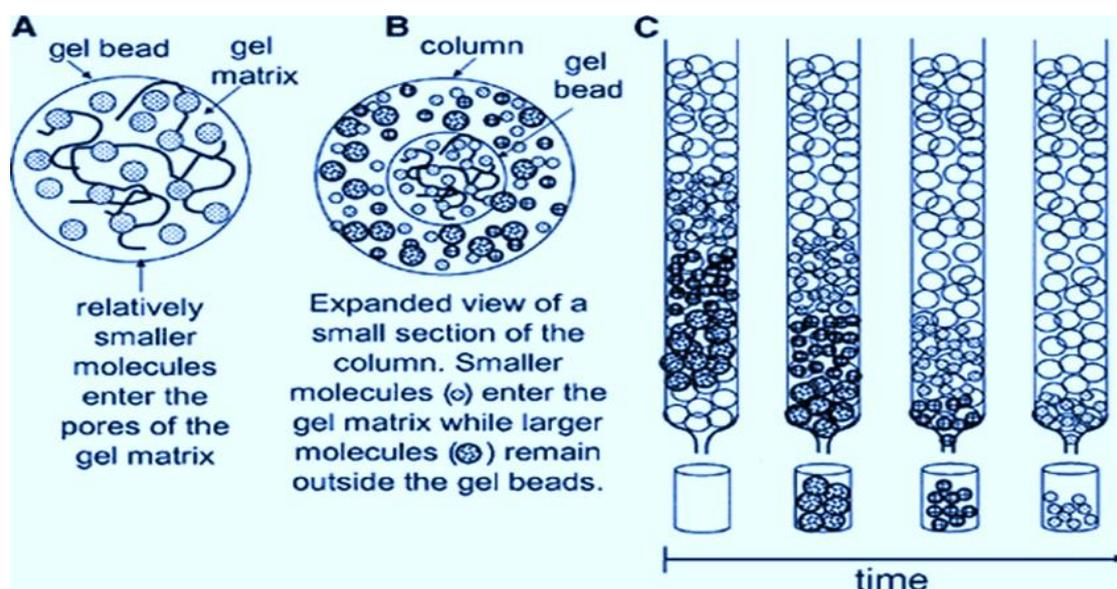

Fig. 6.2: Schematic representation the principle of gel filtration chromatography
- ❖ **Gel Filtration chromatography (size exclusive chromatography):** The matrix is made up of tiny beads having many pores in them. Many types of beads are available having different porosity. Small molecules enter the beads whereas large molecules cannot enter and therefore come out of the column first. By this technique protein of variable sizes can be purified (Fig.6.2).